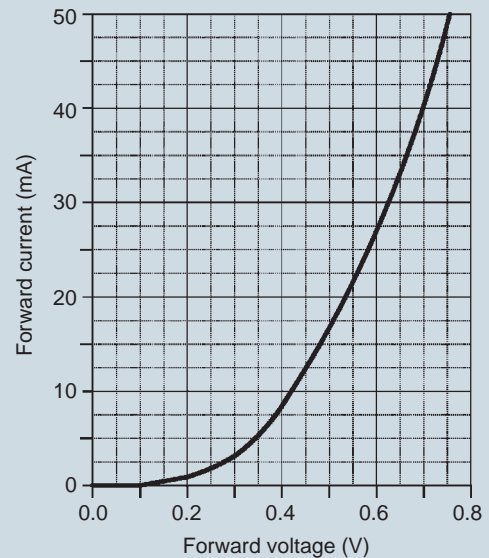

Figure 13.13
11. The graph shown in Fig. 13.13 was obtained during an experiment on a diode. (a) What type of diode is this? Give reasons. (b) Determine the forward current for a forward voltage of 0.5 V. (c) Determine the forward voltage for a forward current of 30 mA. (d) Determine the resistance of the diode when the forward voltage is 0.4 V